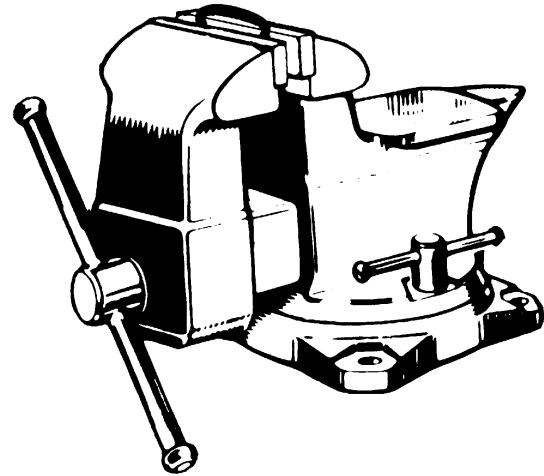

Fig. 4
1. Insert one link lengthwise into the vise (Figure 4). Be sure that the side opposite the weld lies completely below the surface of the vise jaw (about 1/3 of a link). This prevents nicking or cutting the lower part of the link.